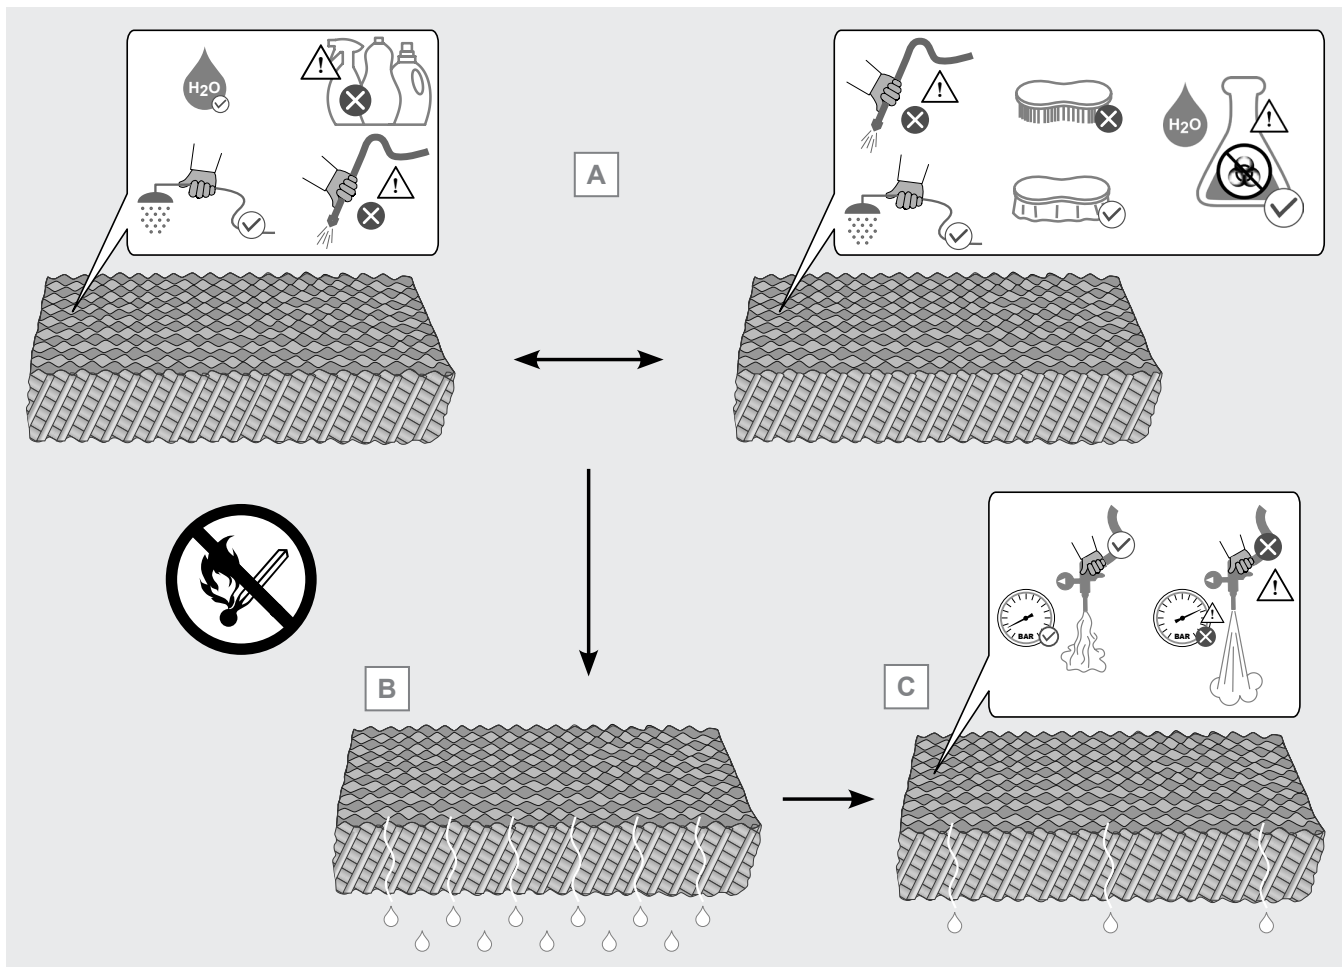

Figure 21
- 12.11.15 Use only water for routine cleaning. See point 6.21 for water characteristics. Do not use detergents, anti-scale products, foaming, acidic or alkaline substances. The use of detergents or other non-specific substances to clean the panels can lead to deterioration of the board, algae proliferation, and bacterial growth. Algae, bacteria and microorganisms in general can permanently compromise the structure of the panel and thus its performance. See Figure 21 A.
- 12.11.18 After cleaning, allow the water to drain from the panel for a few minutes, see Figure 21 B. If necessary, remove the excess water with a low-pressure compressed air jet. Take care not to damage the panels with excessive pressure, see Figure 21 C.